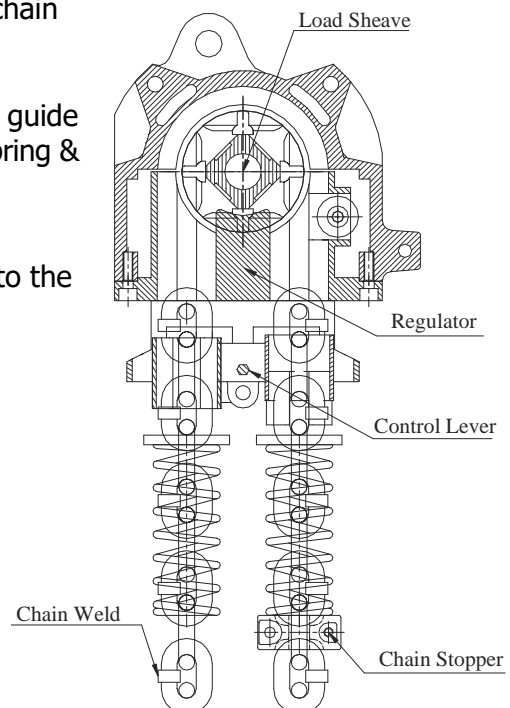

Fig. 9
For Single Load chain fall models : YSA-025,YSA-050,YSA-100,YSA-320:- (See Fig. 9)
- 3) Pass a steel wire through the Chain guide around the Load sheave until the wire exits the hoist on the opposite side of the Chain guide. Attach the steel wire to the first link of the new Load chain [this link will become the end link on the free-end of the chain below the Chain Stopper after the Load chain is fed through– see Fig.9].
For Double Load chain fall hoists models: YSA-200, YSA-630 (See Fig. 9 & 10)